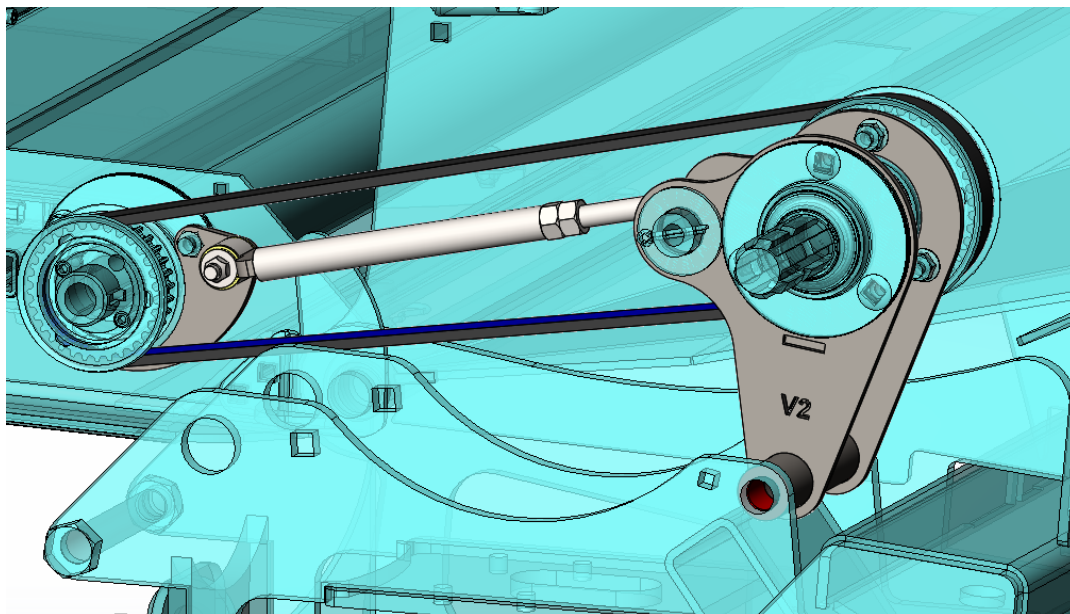

Figure 4
- This belt must be adjusted with the fine tuner app. (Figure 4)